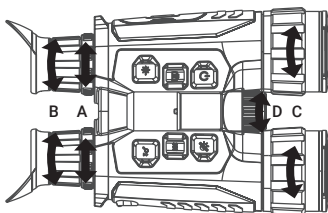

FIGURE 2-5. FOCUS ADJUSTMENT
5. Adjust the interpupillary distance by moving the eyepieces (Fig.2-5, A) farther or closer to each other.
6. Rotate the diopter adjustment rings (Fig.2-5, B) until the on-screen display (OSD) text or image is clear. Once completed, diopter adjustment will no longer be needed again until the device is used by a new user.
7. Point the device towards the target of the view. Bring the object into focus by rotate the objective focus rings (Fig.2-5, C).
8. In the **NIGHT**, **GREEN**, **YELLOW** or **AUTO** mode of the digital channel slightly rotate the IR focus (Fig.2-5, D) to adjust the beam angle of the infrared light. The broader the beam angle is, the more spread-out but less intense the light will be.